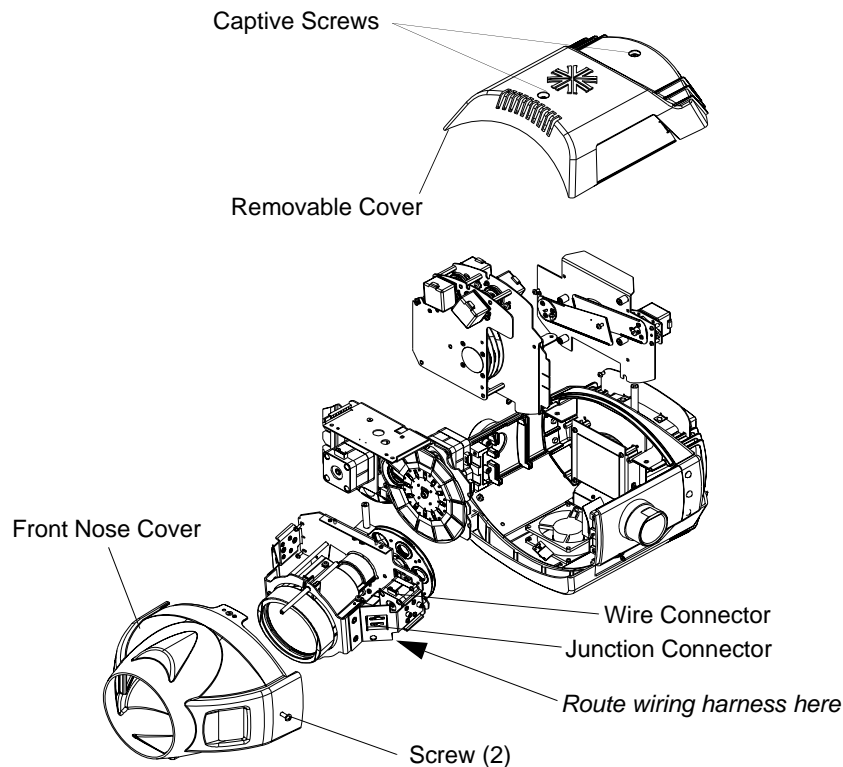

Figure 2-6: Front Assembly Removal
- a. Loosen two captive screws and remove top cover as shown in Figure 2-6 (the cover is attached by tether).
- Step 3. Remove front nose cover by removing two 10-32x1/2" PPB screws (one on each side). **Figure 2-6.**